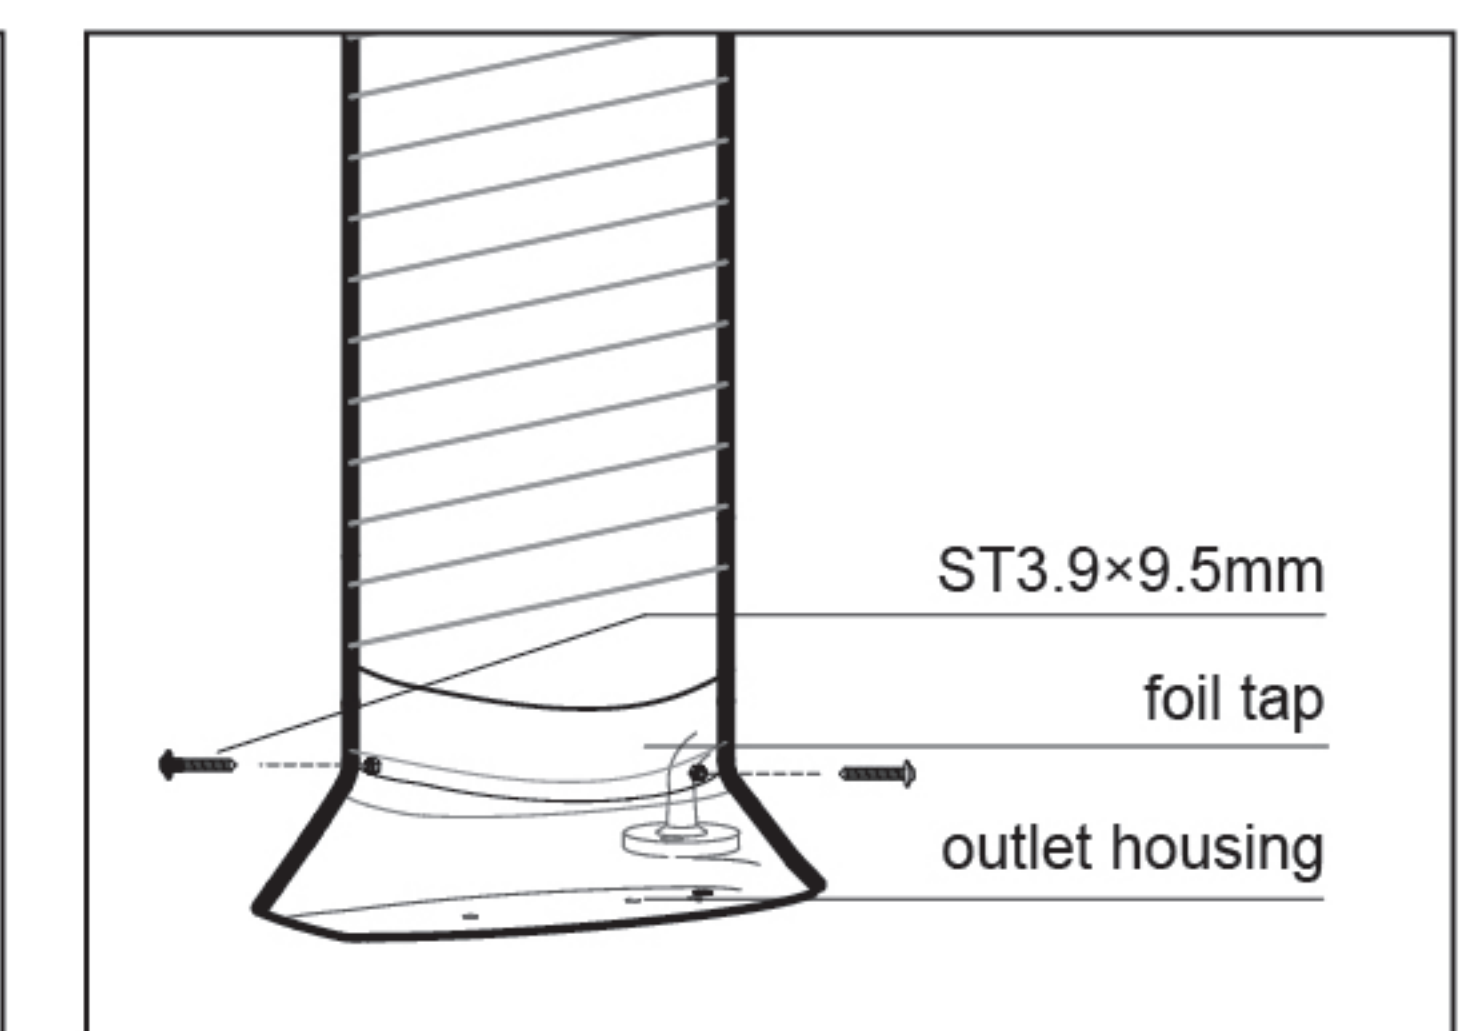

fig12
7. Connect the exhaust duct: cut off the redundant exhaust duct or connect the smoke tube according to the actual distance, put the smoke tube into the outlet housing, then pre-fix the exhaust dust with two screws ($\text{ST}3.9 \times 9.5$), and finally wrap it with foil tape for fixation and sealing; (fig12)